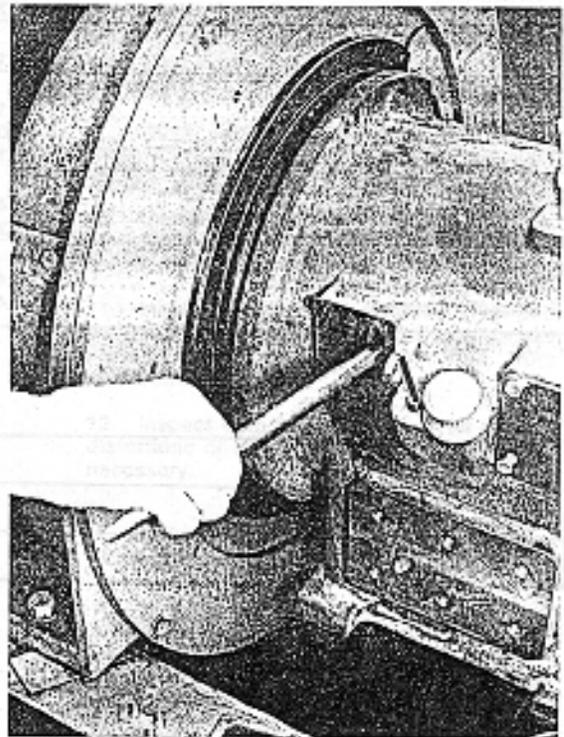

Figure 23. Maintaining Clutch in Housing during Removal of Transmission.
8. Insert screwdriver or similar object through side inspection hole to hold clutch assembly inside housing. Slowly move housing aft and away from oil dam. See fig. 23.